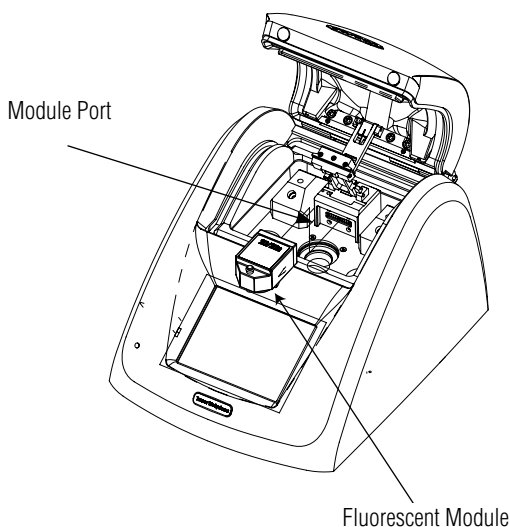

Figure 9. Aligning the Fluorescent Module with the module port.
2. Align the metal pins of the Fluorescent Module with the module port inside the luminometer (Figure 9).